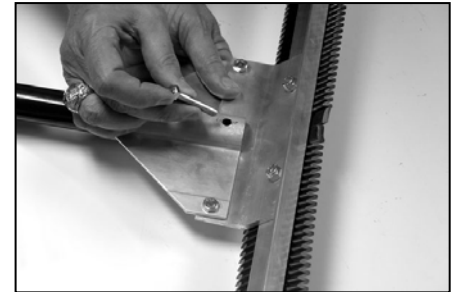

Fig 7
1. Slide the label end of the handle (*label facing up*) (G) over the center hole on the adapter plate (C) and align holes.
2. Position 1 gusset brace (F) on the bottom of the handle (G) and the other gusset brace (F) on top of the handle (*figure 7*).
3. Insert 2 long bolts (H) through the top gusset brace (F), the handle (G), and the bottom gusset brace (F).
4. Insert 2 short bolts (D) through the remaining holes passing through the gusset brace (F) and adapter plate (C).
5. Place loc nuts (E) on bolts and tighten using two 7/16” wrenches.